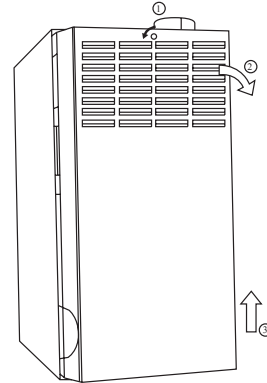

Fig. 7 - Remove Furnace Door
- Turn the switch on the gas control to the **OFF** position. (See Fig. 7.)